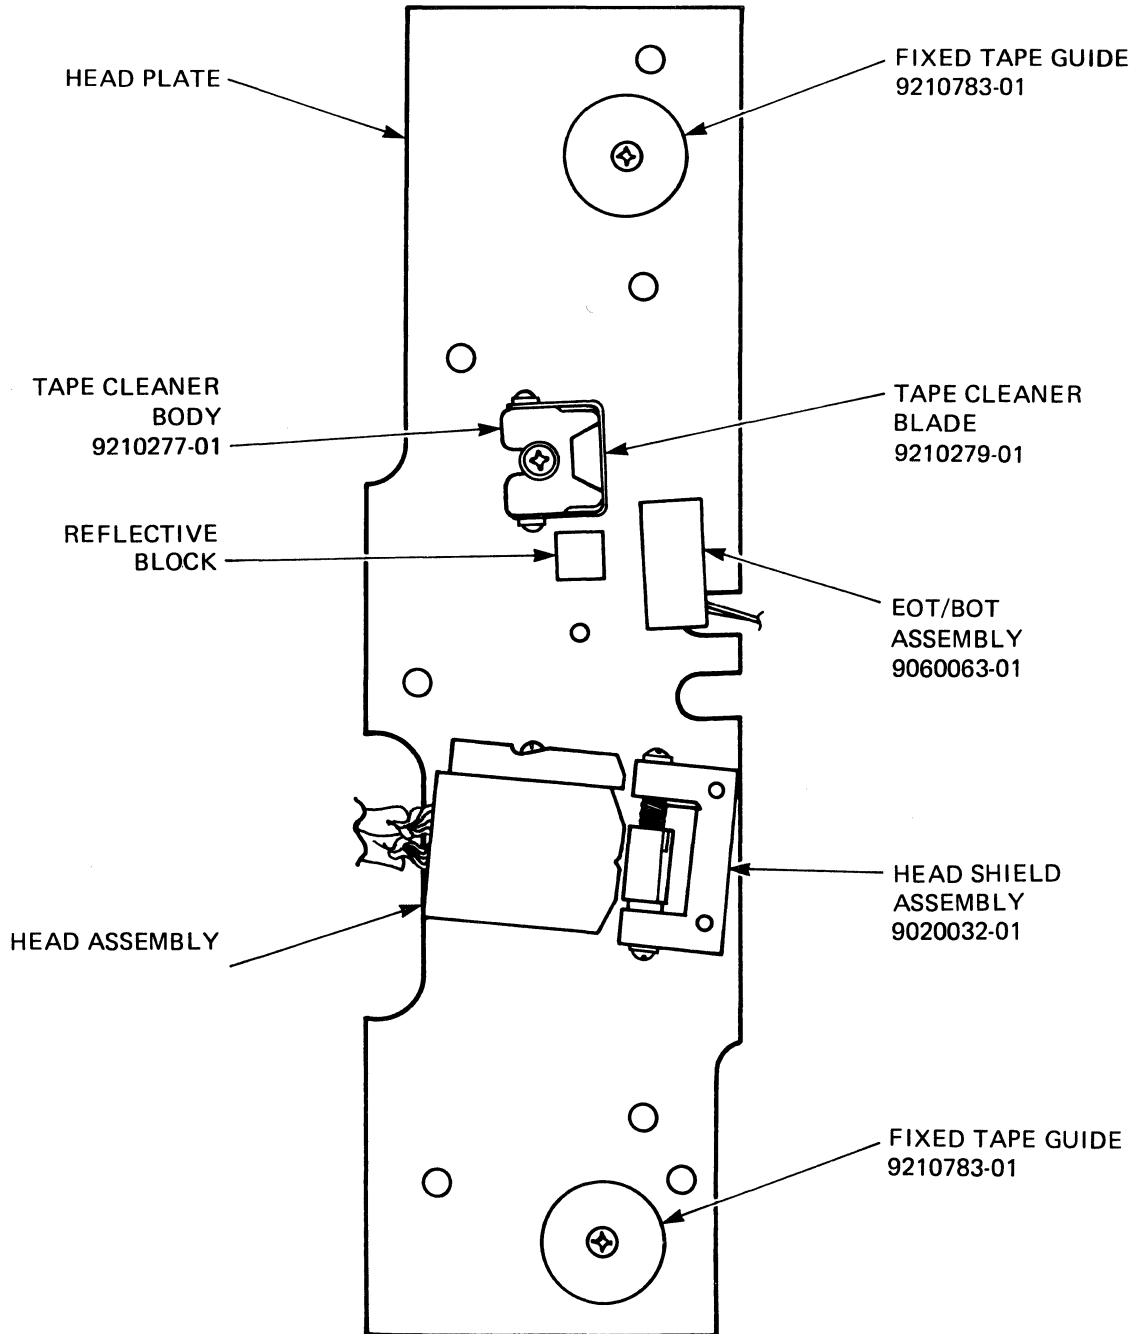

Figure 5-1. Head Assembly
- a. Remove the head covers. Check and, if necessary, adjust positions to ensure that the EOT/BOT tape sensor and the reflective post are parallel to the tape path. Refer to figure 5-1.
- a. Remove the head covers. Check, and if necessary, adjust positions to ensure that the EOT/BOT tape sensor and the reflective post are parallel to the tape path. Refer to figure 5-1.